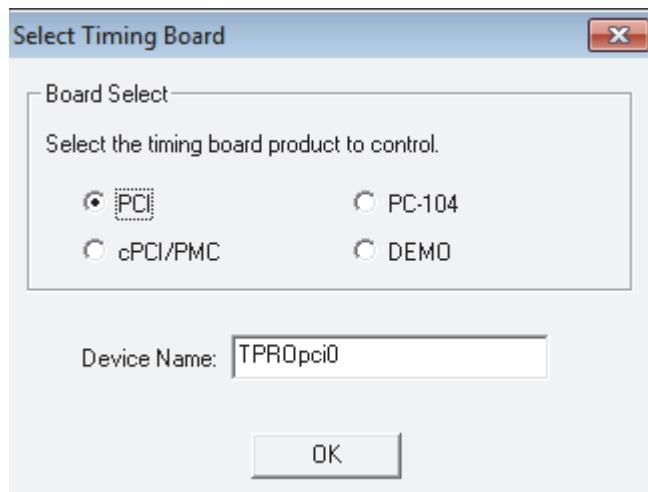

Figure 5-38. TPRO/TSAT Control Utility - Select Timing Board Display
The Select Timing Board dialog box appears as shown in Figure 5-38.
3. In the Select Timing Board dialog box (shown in Figure 5-38), click the **PCI** radio button. If you desire to see a demonstration of the utility, select **DEMO**.
4. In the Select Timing Board dialog box (shown in Figure 5-38), click **OK**.